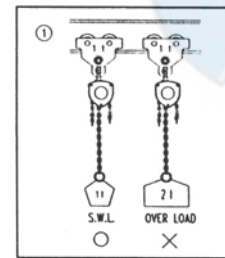

FIGURE 5
1. Do not over loading. (FIGURE 5)